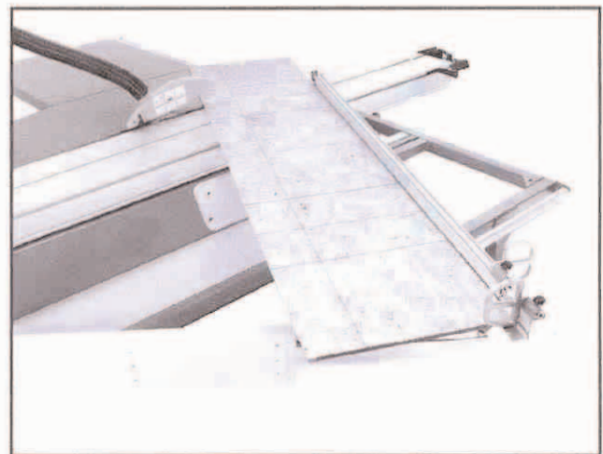

Figure 65. Example of miter cutting operation.
5. Load the workpiece onto the table saw. The setup should look similar to **Figure 65**.